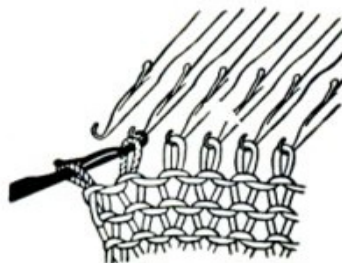

Fig. 71
3. Remove first 2 stitches from the needles onto latch tool and let them slide past the latch. (See Fig. 71,72)